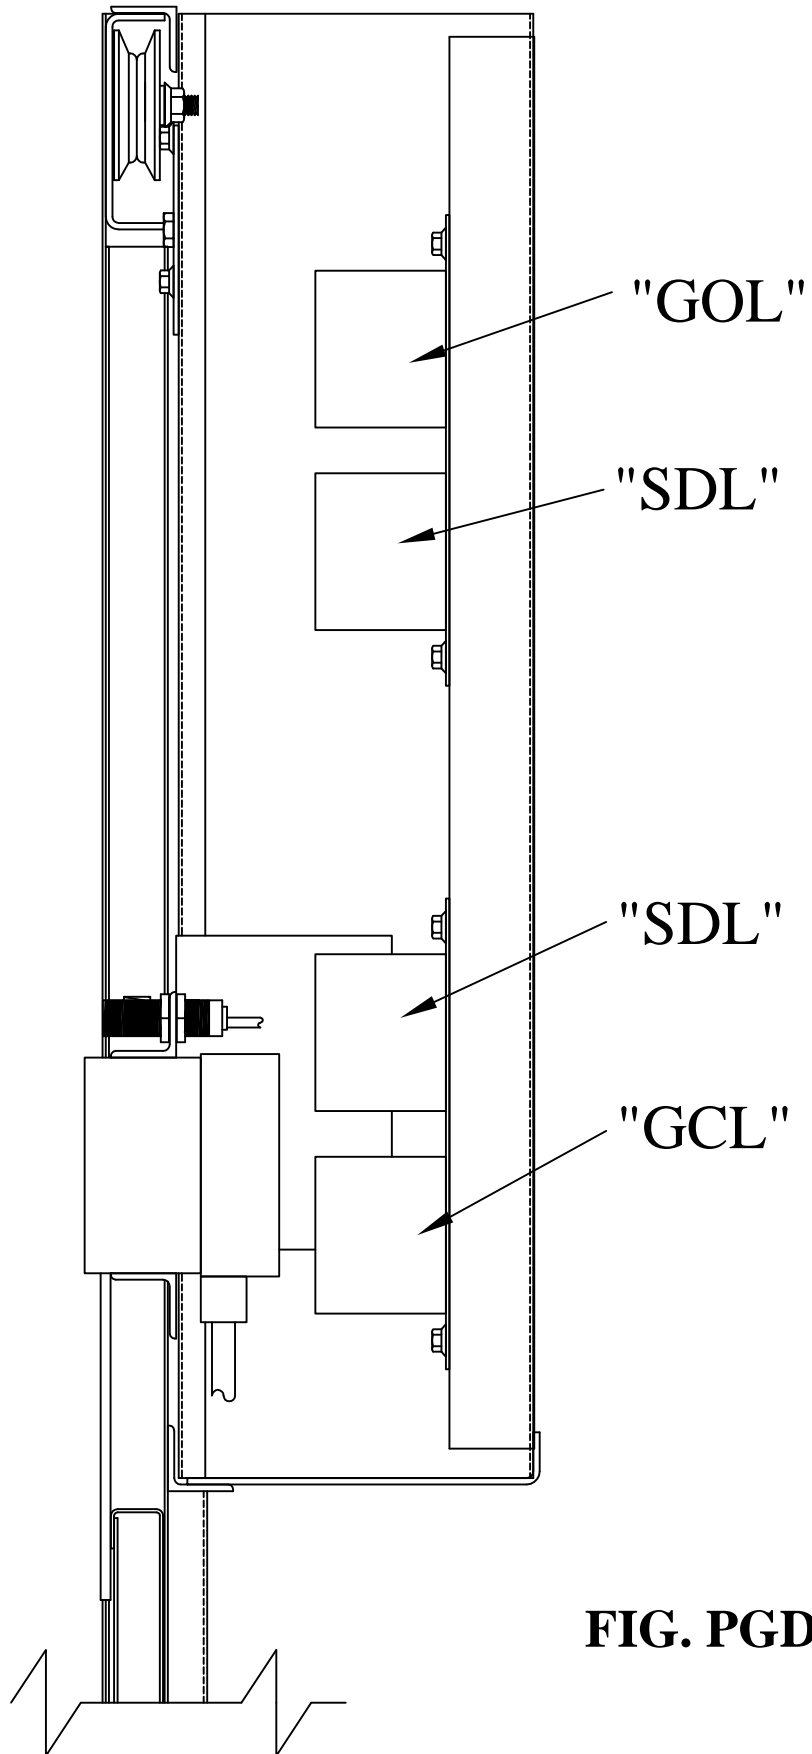

FIG. PGD003
4. Initiate a Door Open sequence and adjust, if necessary, the “GOL” switch. The switch should be set so that the gate opens about ½” to 1” further than the hoistway door, i.e. 48” door opening, 49” gate opening. The door will reach its full open position and then the gripper plate will slide along the magnet face until the “GOL” limit is triggered. This is required in order to maintain an accurate and consistent closing of the gate and doors. Note: on Bi-parting equipment a ½” of movement on the “GOL” switch equals a 1” change in the gate open dimension. **See Fig. PGD003 for switch identification.**
5. Initiate a Door Closed sequence and adjust, if necessary, the “GCL” switch so that the gate and door fully close. The door panels will close first and then the gate will close as the gripper plate slides along the magnet face until the gate fully closes. When properly adjusted the doors will consistently close correctly. **See Fig. PGD003 for switch identification.**